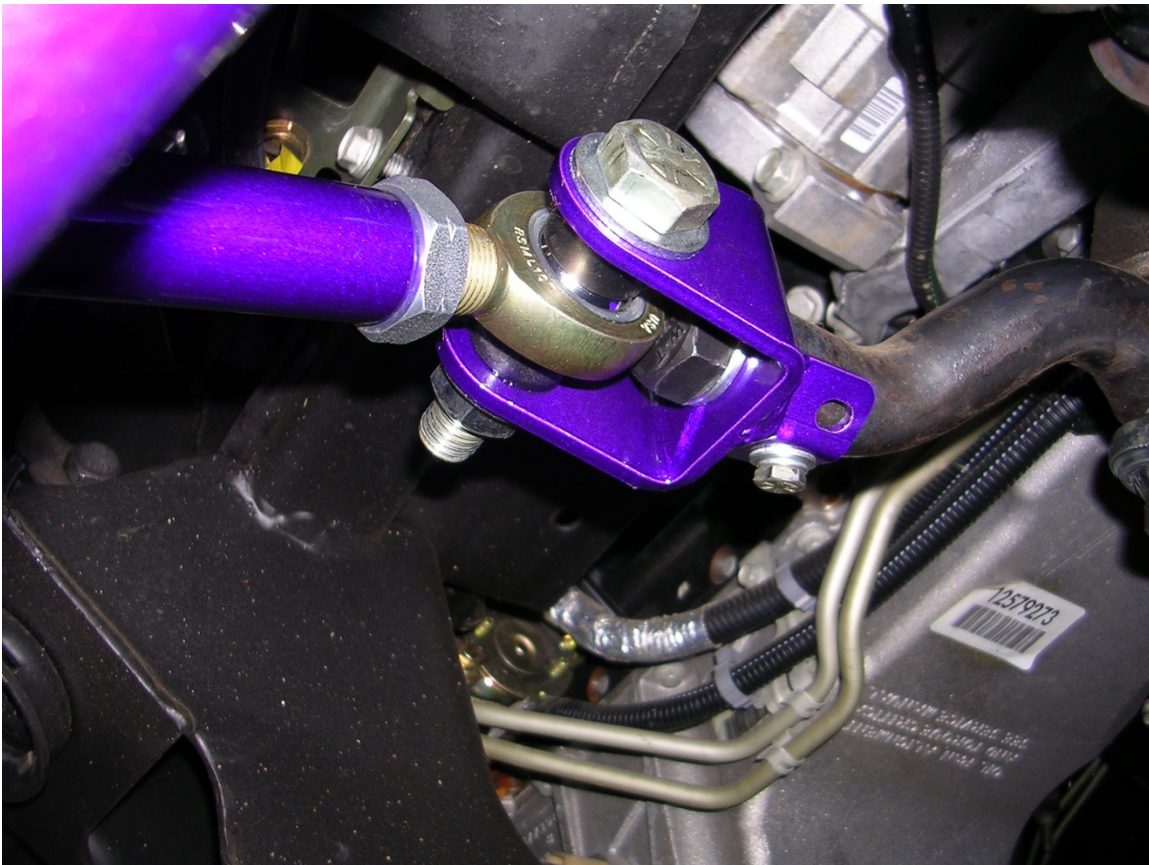

Figure 1: Steering Adapter Assembly
2. From the hardware package, insert the 18mm metric bolt through one lock washer, then through the steering adapter bracket. Thread the bolt into the end of the drag link where the factory hardware was removed. Bolt the steering adapter to the drag link with the tab of the adapter on the bottom of the drag link. Be sure that the steering adapter bolt hole runs horizontal, and use a 1/4" fine thread bolt and lock washer from the hardware package and bolt the tab to the drag link using the old grease fitting hole. You may have to use some of the 1/4" flat washers provided as shims in between the tab and the drag link if there is a gap. Tighten the 18mm bolt to 90 ft-lb, and the 1/4" bolt to 10 ft-lb. See Figure 1
4. Use the 3 1/2" long bolts with the head of the bolt toward the front of the truck, washers and nuts to mount the end of the Cognito steering adjuster assembly that has the left handed rod end in the Cognito steering adapter. The rod end must have a spacer from the hardware package on each side of it inside the Cognito adapter. See Figure 1